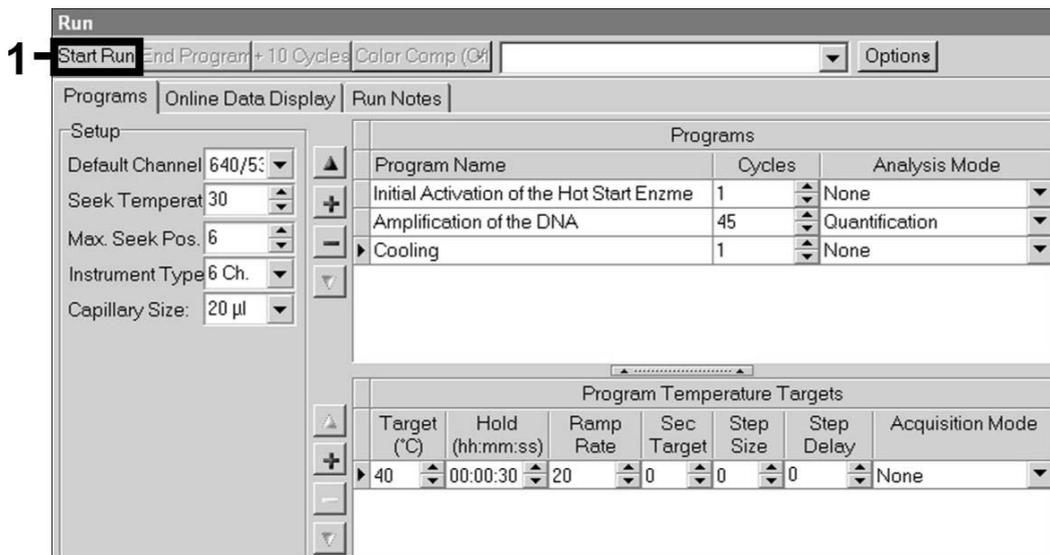

Fig. 9: Start of the PCR run.
- In order to start the PCR run, change to the field *Run* and activate the function *Start Run* (see Fig. 9). The PCR programme will start after entering the location where the data should be saved.